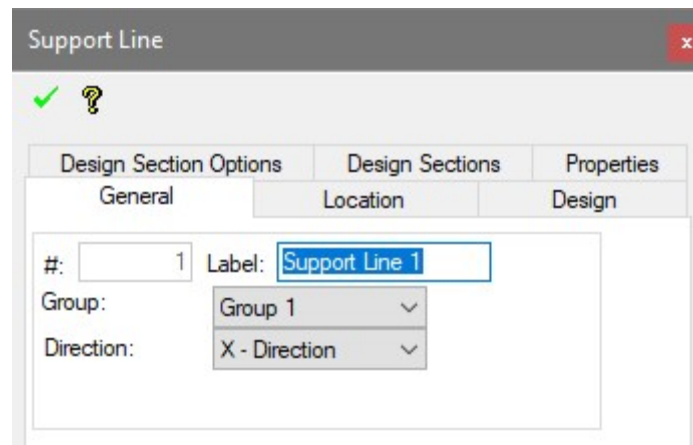

FIGURE 6.7-1 SUPPORT LINE DYNAMIC EDITOR
- Support lines in the X-direction will be drawn first. Use the **Create X-Support Line**  tool from **Floor Design | Strip Modeling**. Click on the **Item's Properties**  icon of the **Bottom Quick Access** toolbar. A dialog box, as shown in **Figure 6.7-1**, will be displayed. Make sure the intended direction of the Support Line is set to **X-Direction**. Click the green check mark to accept the modification if not. Click the X to close the window.